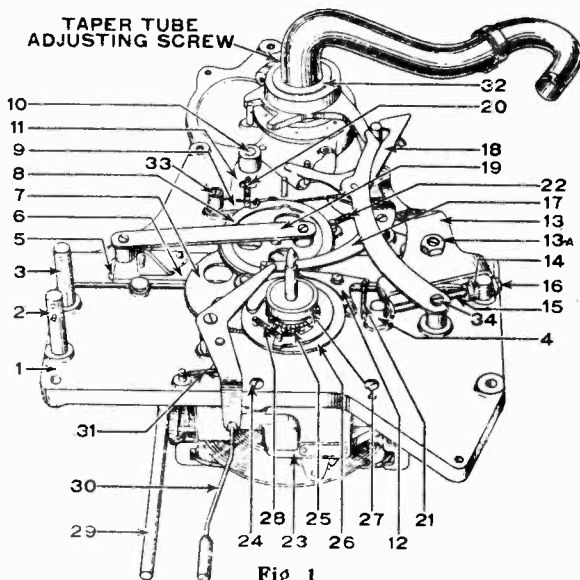

Fig. 1
NOTE:—The operating unit of the Automatic Electrolas differs from the Automatic Victrolas in the taper tube return lever No. 18, Fig. 1. All 10-50 units above serial No. 8950, all 10-51 above serial No. 800, and all 10-70 and 9-55 have a motor plate with provision for mounting the electric pick-up shunt switch and the remote reject control.
- Lifter ring posts (2 and 3, Fig. 1) out of line.